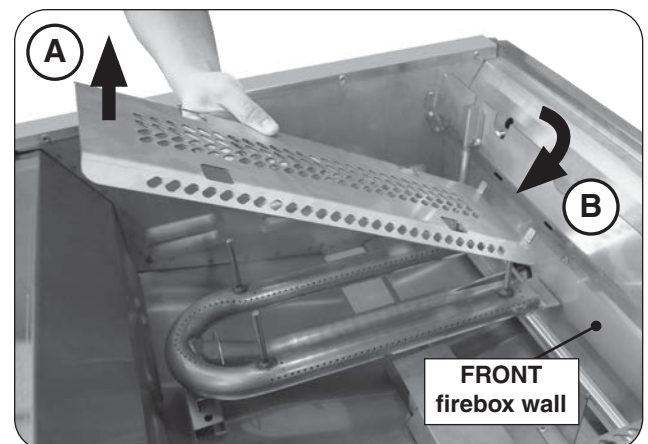

Fig. 27-4 Heat distribution grid(s) removal
2. Remove the grid(s) as shown in Fig. 27-4. Lift from the rear, and free the front tabs (on the grid) from the cutouts in the front firebox wall.